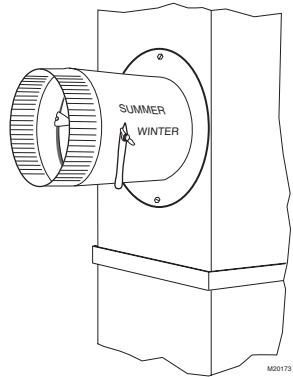

Fig. 10. Installing starter collar.
3. Assemble the summer shutoff damper into the starter collar. Verify that the damper rotates freely between the open and closed positions. Make sure handle will be accessible. Mark the damper closed position as summer and the open position as winter. See Fig. 10.